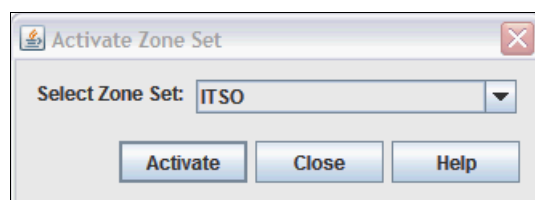

Figure 8-28 Activate Zone Set dialog box
- Right-click a zone set on the **Configured Zonesets** tab of the switch. Then in the Activate Zone Set dialog box (Figure 8-28), select the zone set and click **Activate**.